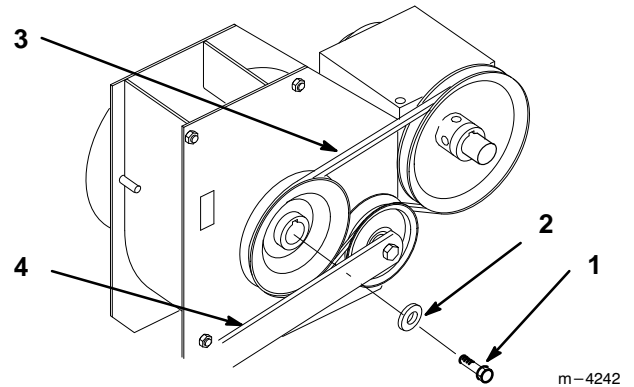

Figure 11
2. Push up and hold the spring loaded idler arm, behind blower to relax pressure on blower belt, and pin to engine frame (Fig. 11).
3. Remove belt (Fig. 11).
5. Remove the bolt and washer on the blower pulley (Fig. 11).
6. Discard washer and reinstall new washer and bolt (Fig. 11).